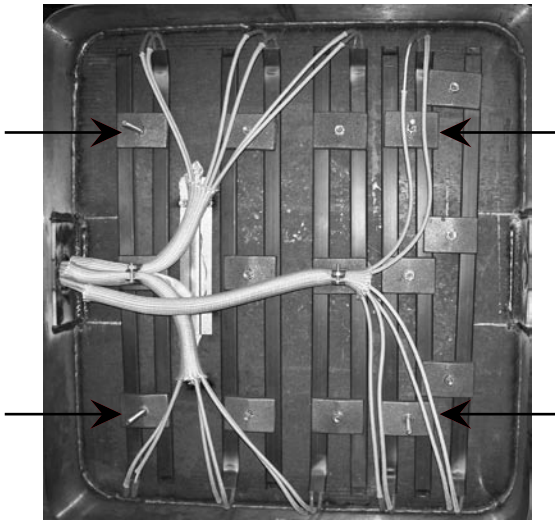

Fig. 1
- d) Remove cover from bottom of the pan by removing four nuts. (See Fig. 1)